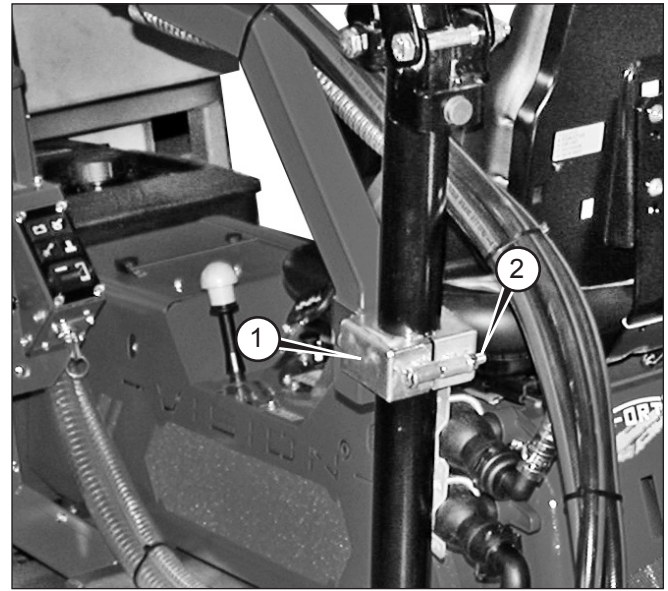

Fig. 20 - Control group fixing bracket
- 5) Control group fixing bracket (see Fig. 20).
- 1) Unscrew the tightening screw (2 Fig. 20) of the control unit support bracket so as to be free from blockages.
- 3) Tighten the bracket, re-introduce the clamping screw (2 Fig. 20) and lock the control unit in place.